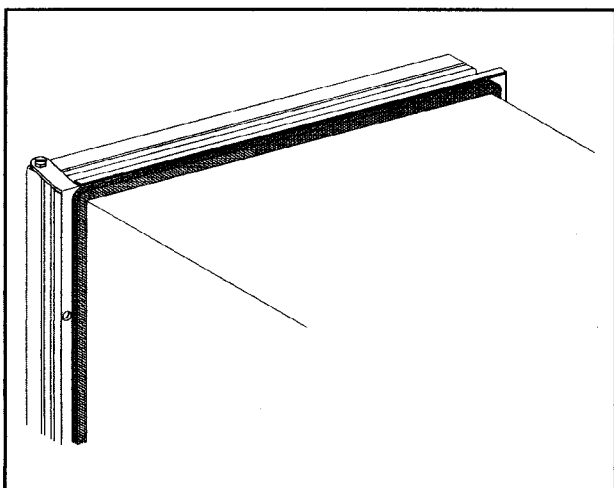

Figure 5 - Combustion Seal
- c. Adequate seal between refrigerator mounting flange and cut-out opening (See Figure 5).
To insure complete isolation of the living space of the vehicle from refrigerator's combustion system assure the combustion seal is in place and not disturbed. (See Figure 5 below).